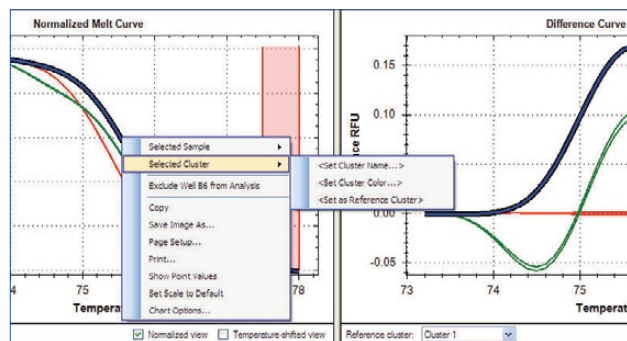

Fig. 9. Changing cluster parameters.
4. Right click the fluorescence trace of a well in the Melt Curve or Difference Curve chart to change the selected sample or selected cluster parameters (Figure 9).